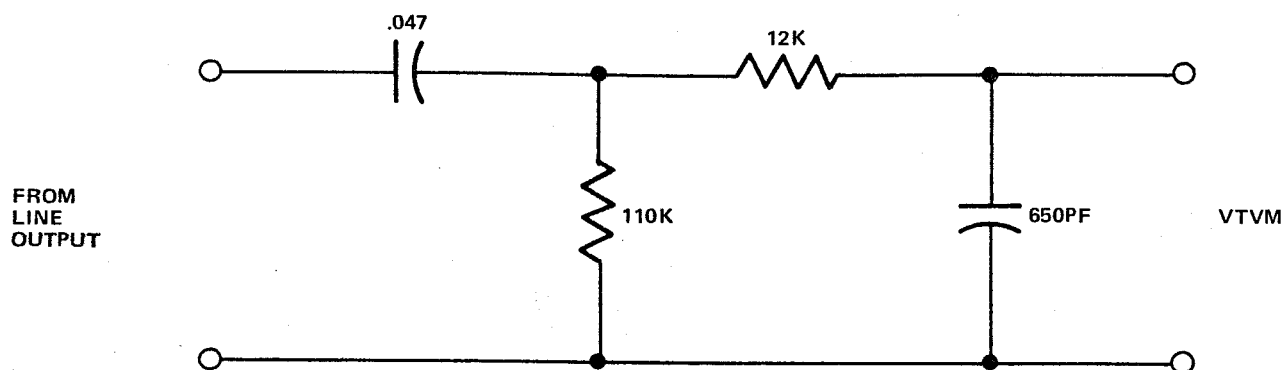

Figure 18. 30 Hz - 18 kHz Band-Limiting Filter
10. Connect a band-limiting filter (Figure 18) between line output and a vtvm to measure reproduce standby noise. The vtvm reading should be less than -58 dBm at either speed for 8 or 16-channel systems, or less than -54 dBm for 24-channel systems.
3. Rewind the tape to the beginning of the recorded section and remove the oscillator input signal. The inputs should be terminated with a low impedance (600 ohms) or shorted. Connect a vtvm to the line output via a bandpass filter (see Figure 18).